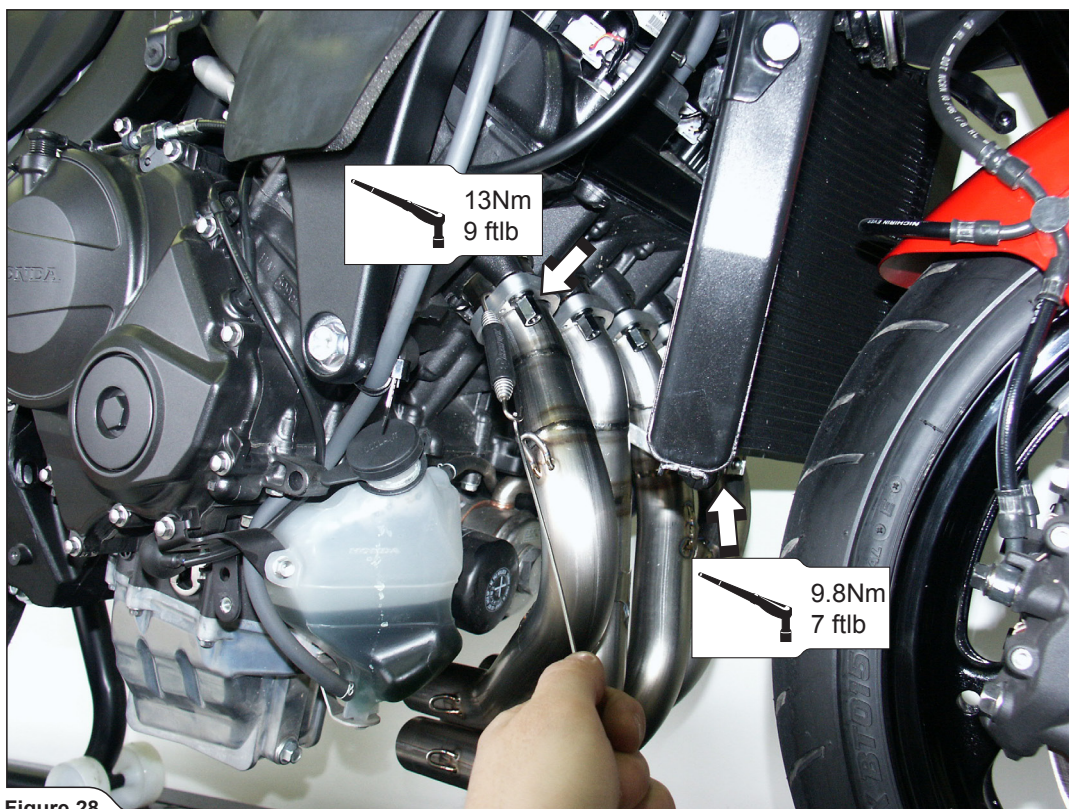

Figure 28
2. Insert the header tubes properly, attach the springs and tighten the flanges; make sure not to damage the cooling fins (**Figure 28**). Reattach the cooler to the bracket; (**Tightening torque for cooler bolt: 9.8Nm / 7ftlb**).